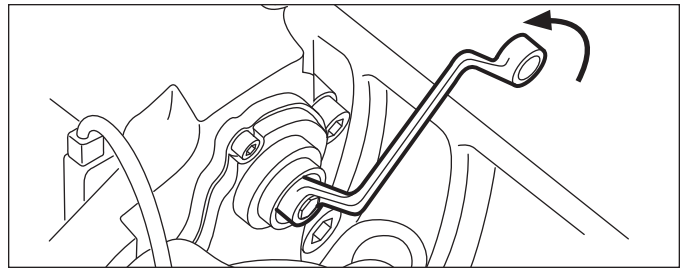

Figure 20 – Backing-Off (Increasing) the Running Clearance
4.2.2 Using a 10 mm. six-point box wrench, turn the Shear Adapter (61) **counterclockwise** and listen for the sound of 3 clicks as the mechanism backs-off (increases) the running clearance. Note: Do not use an open-ended wrench as this may damage the adapter. See Figure 20.